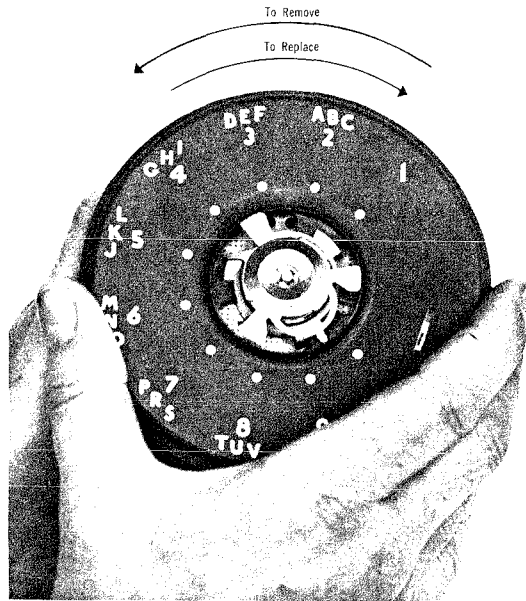

Fig. 7 — Removal of Number Plate
- (1) Remove fingerwheel (see Para. 4.01).
- (2) Remove finger stop (see Para. 4.03).
- (3) Remove number plate by rotating it in a counterclockwise direction until it becomes free (see Fig. 7).
- (4) Raise the top portion of the number plate until it clears the clamp plate.
- (5) Lift number plate off the dial mechanism.